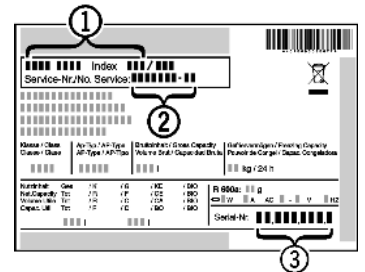

Fig. 21
- ▶ Read the appliance designation *Fig. 21 (1)*, service No. *Fig. 21 (2)* and serial No. *Fig. 21 (3)* off the type plate located inside the appliance on the left-hand side.
- ▶ Notify the customer service, specifying the fault, appliance designation *Fig. 21 (1)*, service No. *Fig. 21 (2)* and serial No. *Fig. 21 (3)*.